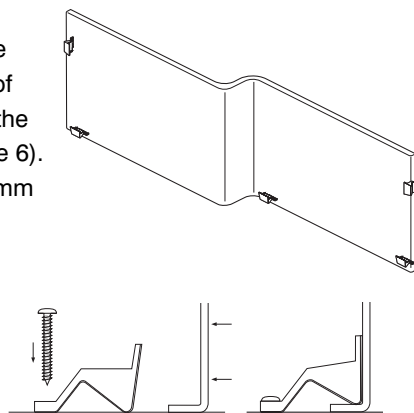

Figure 6
17. Pre fit front panel ensuring that the ends of the panel are vertical. Mark a line along the front of the panel on the floor. Remove panel and fix the plastic panel clips onto the floor/wall(s) (Figure 6). The front of the block at the floor should be 3mm back from the marked line.